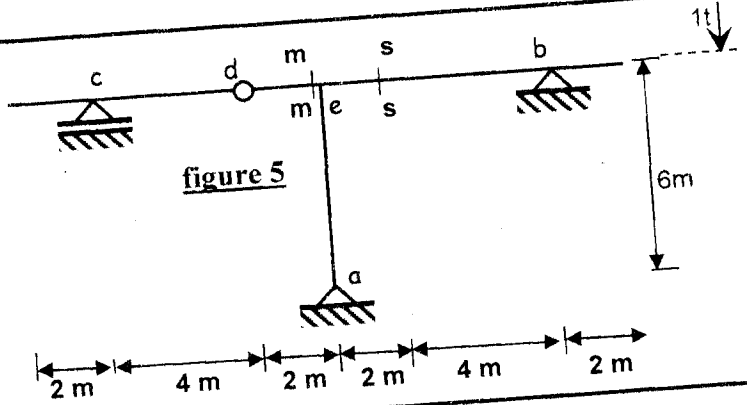

figure 5
- C) Figure 5 shows plan of a typical floor of RC flat slab with panel 7.5×6.5 m and without column head. The flat slab is subjected to uniformly live load and floor cover of 5 and 2 kN/m^2 , respectively. It is required to carry out the following:
- Draw on plan the reinforcement details of the column and field strips in a long direction (X) only. (3Marks)
For the structure of constant I shown in figure 5, construct the influence lines of the reactions at supports a and b. Also construct the influence lines of the straining actions (N, Q, and M) at the sections s-s and m-m.